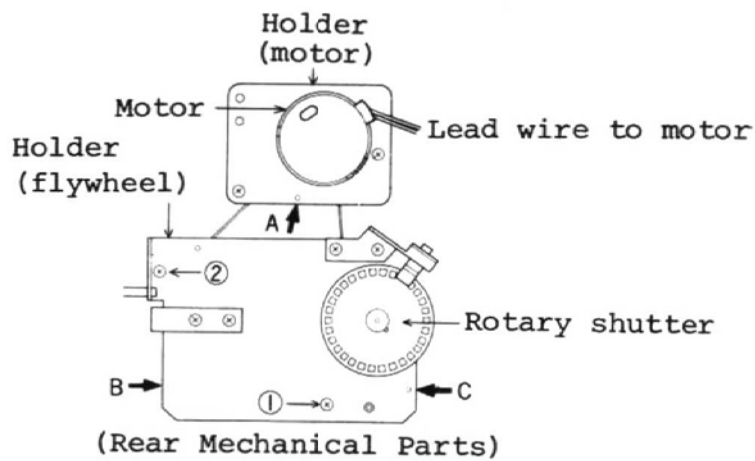

Fig. 5
- a. When removing the holders (motor) and (flywheel) shown in Fig. 5, the spring (motor) in Section A and the springs in Section (flywheel) B and C must be removed.
- b. Loosen the rotary shutter in Fig. 5 with a hexagonal monkey wrench (1.3mm) and remove screws (M3 x 0.5 x 4) from ① to ② shown in Fig. 5. As soon as the holder (flywheel) is removed, the rotary shutter is removed.
- a. The motor must be installed so that the leading wire to the motor can be out in the direction shown in Fig. 5.